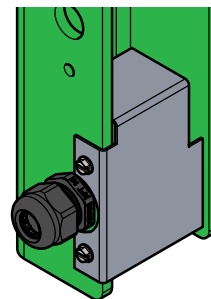

Figure 9. Strain Relief and Cover
14. Install the cover plate with two 8-32 screws (Figure 9).